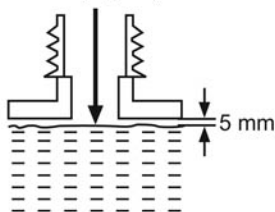

Fig. 11
- > Only use the stated oil/petrol mix. Avoid overfilling the tank. Leave a gap of at least 5 mm between the fuel level and the top of the fuel tank [6], to allow for expansion (Fig. 11).